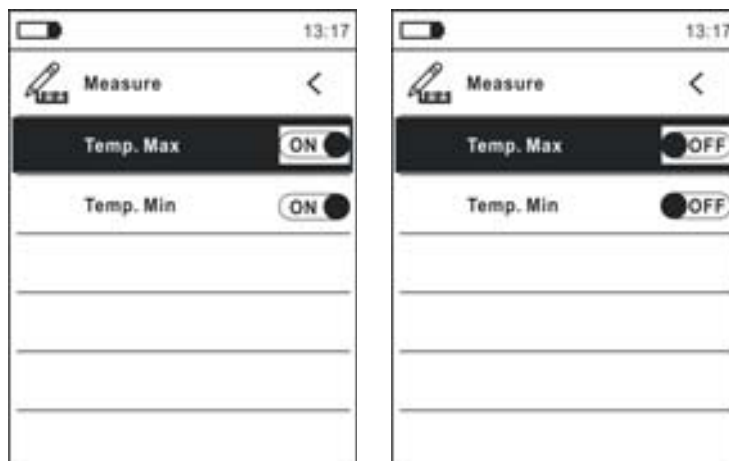

Fig. 13: Measurement Menu
9. Select item "Measure" and press key  or  to enable activation/deactivation of the cursors associated with the "hottest" or "coldest" spots in the thermographic image (see Fig. 13).